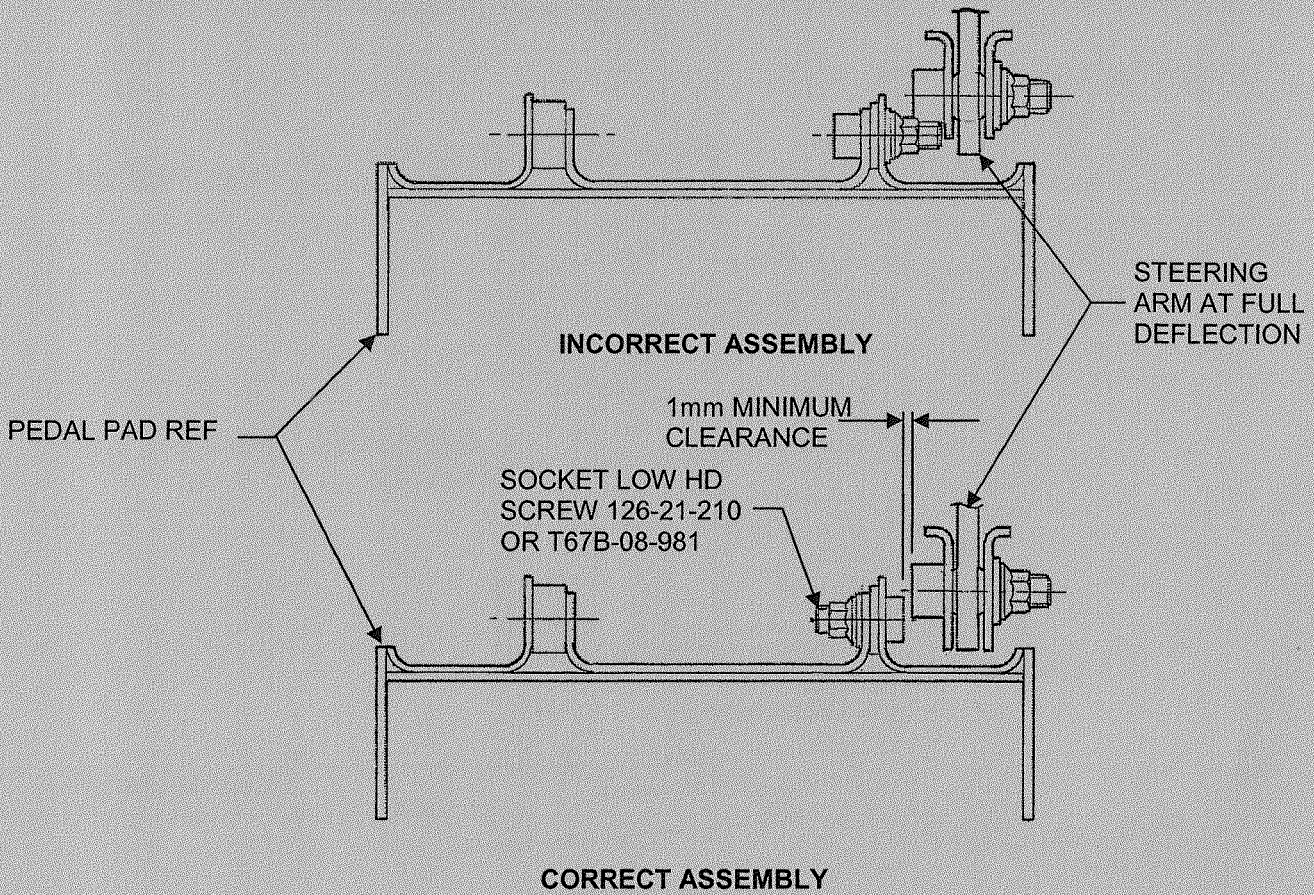

FIGURE 6
18. Ensure Pedal no 2 Pedal pad pivot bolt head height is less than 5mm and orientated, as shown in Figure 6. A minimum of 1mm clearance is required, if not, fit part no 126-21-210 or T67B-08-981, this invokes Mod M671 "Introduction of Low Head Rudder Pedal Pad Pivot Bolts – Pedal No. 2".